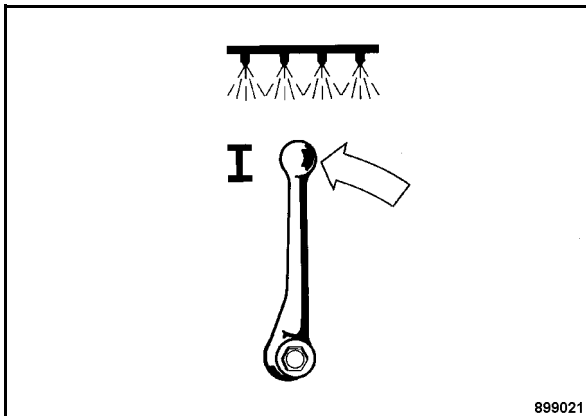

Fig. 43
- Switch the cock valve to position "I" (Fig. 43). The gravity sprinkler system is switched on.